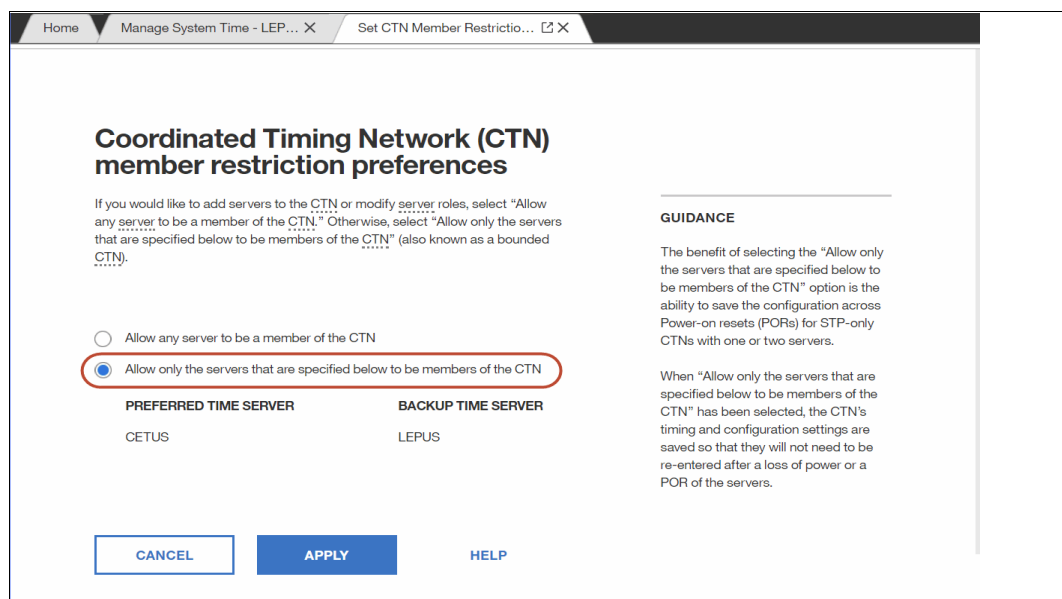

Figure 8-30 CTN member restriction preferences
2. Select **Allow only the servers that are specified below to be members of the CTN** and click **APPLY** (see Figure 8-30). Confirm that the Success applying changes message is displayed after APPLY is clicked.